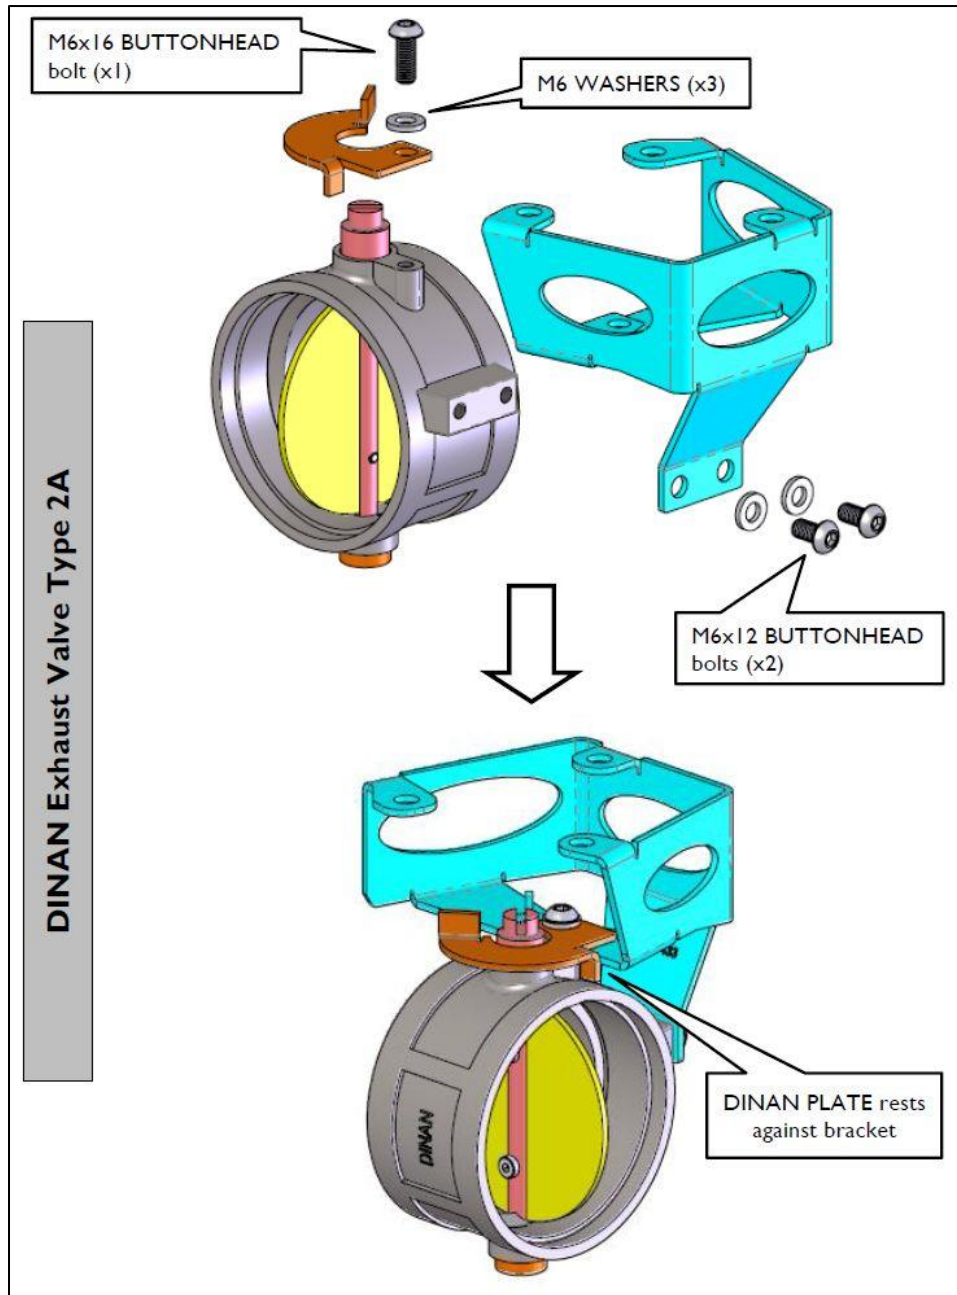

Figure 3: Assembly- Valve Bracket
- 1) Assemble the exhaust valve mount (blue) and D76 limiter (orange) to the valve as shown in Figure 3.